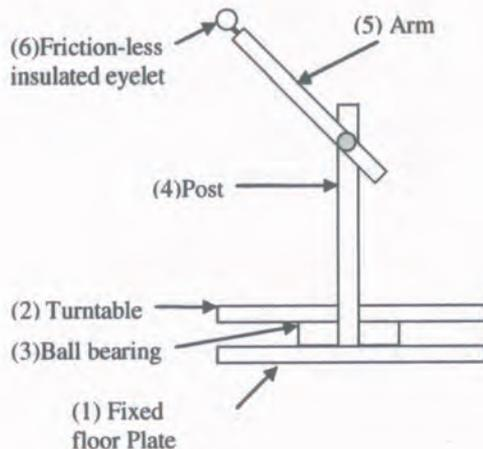

Figure 1
The drum must be set on a turntable which permits it to turn freely, allowing the wire to be paid off without tangling. Turntables can be purchased from a manufacturer or made by the user. (See Figure 1) A turntable consist of a stationary plate on the floor (1), a rotating plate (turntable) (2) centered on a large bearing (3), and a post (4) and arm(s) (5) for the eyelet(s) (6). At least one low friction insulated eyelet is required to guide the electrode. This is to help guide the wire out of the drum and prevent tangles or accidental grounding, which can cause personal harm and/or damage to the equipment (See Figure 1 below for labeled illustration.)